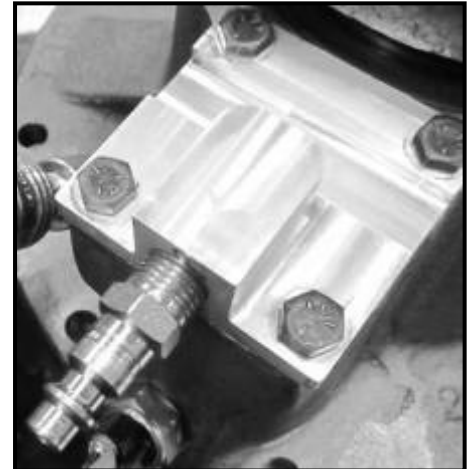

Figure 68
19. Screw in a fitting onto the shift cylinder cap. See **Figure 68**.